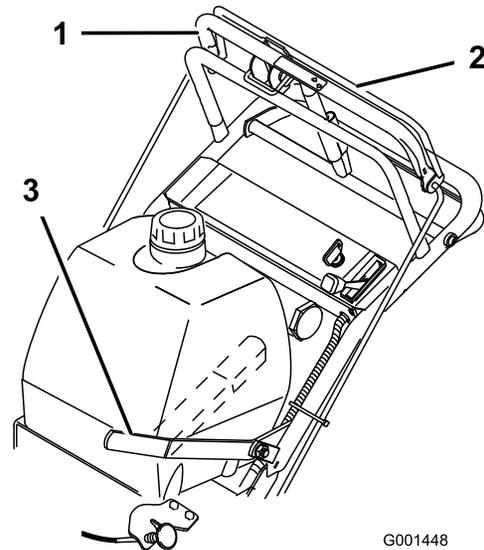

Figure 9
1. To engage the blades, squeeze blade control bail against the upper control bar (Figure 9).
To disengage the blades, pull the blade control lever (PTO) rearward all the way (Figure 9). The engine will kill when the blade control bail is released with the blade control lever engaged.